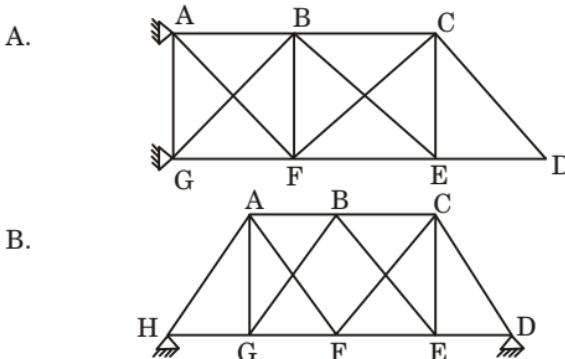

Fig. 2.
- Find the external and internal degree of redundancy of the structures as shown in Fig. 2.